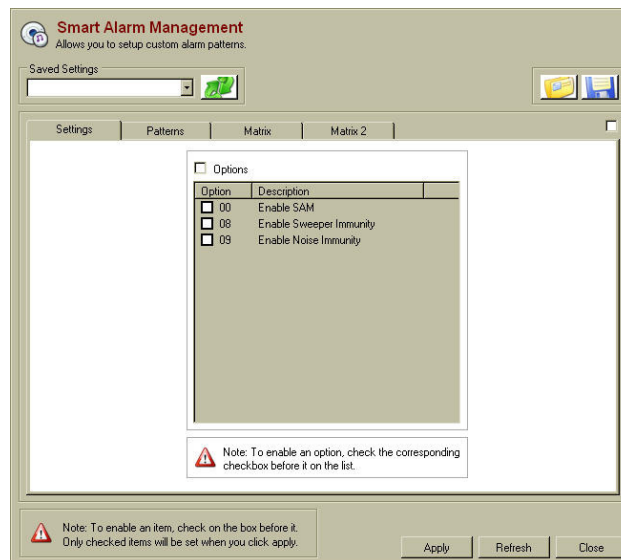

Figure 35: SAM Screen
21. Once the SAM screen appears (shown in Figure 35: SAM Screen), the device is ready for configuration.
22. Click the **Options** box (see Figure 35 Sam Screen). Click Option **00** to enable SAM. Then, if the environmental conditions require, select options 08 or 09. Refer to Chapter 7: NGL Tuning in order to determine if either or both of these options should be selected.